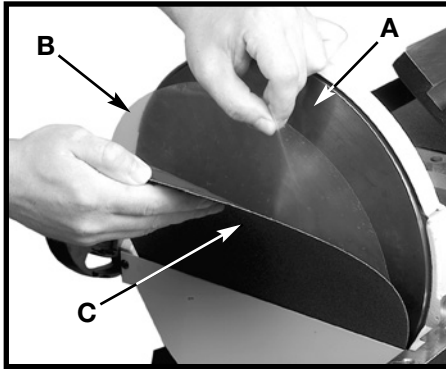

Fig. 9
1. Clean the sanding disc plate (A) Fig. 9 of any oil or grease, and be certain that it is dry.
2. Peel approximately 1/2 of the backing (B) Fig. 9 from the sanding disc (C).
3. Insert the sanding disc (C) Fig. 9 with the paper backing downward between the disc assembly and the disc guard.